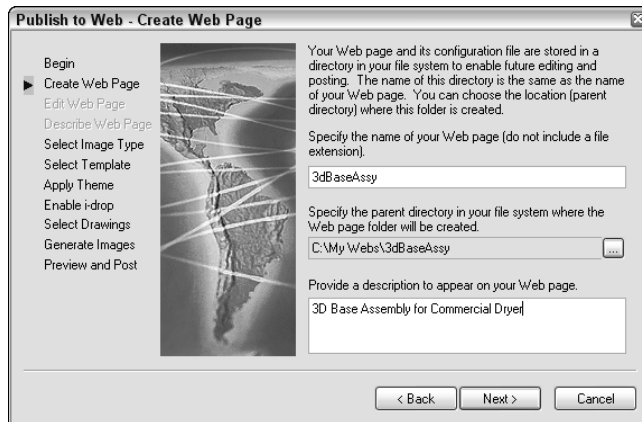

Figure 28-13: On the Create Web Page screen, specify where you want to create your Web page on your own computer system and create a description of the page.
2. On the Create Web Page screen, shown in Figure 28-13, type a file name for the Web page. (AutoCAD creates a folder with this name and places all the files for the Web page in the folder.) Then click the ellipsis button (. . .) to navigate to where you want to create this file. If you already store Web page files on your system, you can use the same location. Finally, add a description that will appear on the Web page. Click Next.